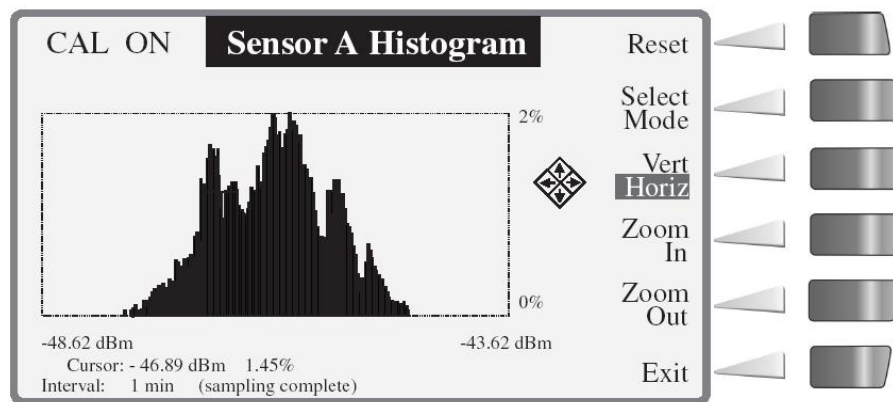

Figure 2-8: Histogram Illustration
The Histogram feature displays graphical views of accumulated data distribution over a selective period of time (See Figure 2-8). From the Power Meter Configuration menu move the cursor to the **Histogram** option and press **[Config]**.
5. Press **[OK]** from the Power Meter Configuration menu. The Histogram will display full screen as shown in Figure 2-8.
- a. The Histogram (See Figure 2-8) shows the percentage of time each power level is measured.